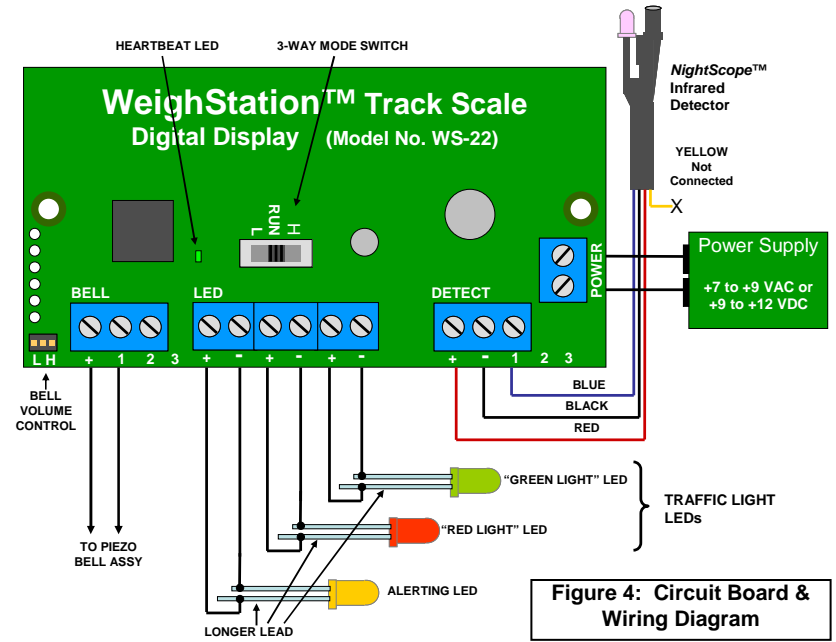

Figure 4: Circuit Board & Wiring Diagram
Figure 4 shows how to wire your **WeighStation™ Track Scale**, along with key features on the circuit board.
1. Connect two wires from your power supply to the Track Scale power terminals as shown in Figure 4. Polarity does not matter. The power supply must be 7 to 9 Volts AC or 9 to 12 Volts DC, with 250 mA capacity. Radio Shack sells an AC adapter (#273-314) that works well.
2. Connect the RED, BLACK and BLUE wires from the **NightScope™ Infrared Train Detector** as shown in Figure 4. The YELLOW wire is not used – trim it and insulate the end.
3. If you are using the Piezoelectric Bell Assembly, connect it between (+) and (1) terminals as shown in Figure 4. Polarity does not matter.
4. You can directly wire an Alerting LED as in Figure 4. Install the LED on or near your Scale House. Or you can install the red and green "traffic light" LEDs as shown. (LEDs are not included.) LEDs are polarity sensitive – connect the long and short leads as shown. The Track Scale circuit board sources 20 mA at 2 Volts for each LED.
The Track Scale Circuit Board has a green “Heartbeat LED” (see Figure 4) that blinks every second while the Track Scale is waiting for a car. It is steadily on while the Track Scale is generating a car weight, or while setting the Display Range.
Use the 3-Way Mode Switch in the center of the circuit board (see Figure 4) to set the three Display Ranges as follows:
Sound volume is controlled by the black jumper in the lower left corner of the circuit board (see Figure 4). Slip the jumper over the center and “L” terminals for a lower volume, or over the center and “H” terminals for a higher volume.